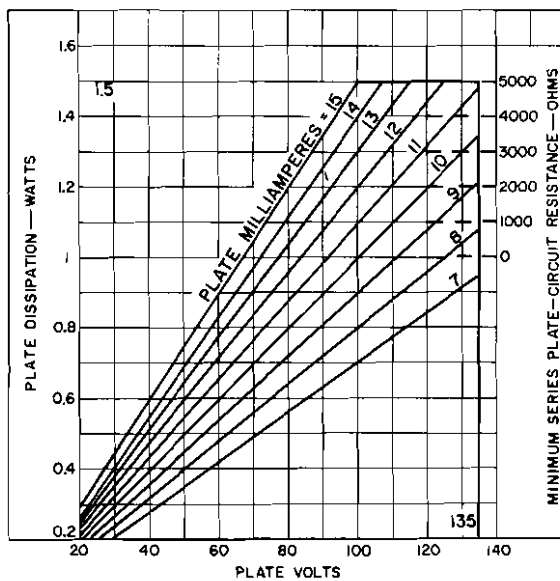

Fig. 1 - Plate-Dissipation Rating Chart for Types 2CW4, 6CW4, and 13CW4.
| For lower values of series plate-circuit resistance | See Fig.1 and Operating Considerations | |
The *Plate-Dissipation Rating Chart* shown in Fig.1 presents graphically the maximum rated plate dissipation of the 2CW4, 6CW4, and 13CW4 for various minimum
2. From Fig.1 determine the corresponding maximum plate dissipation and required minimum value of series plate-circuit resistance.
(b) From Fig.1 — the plate dissipation for a plate voltage of 130 volts and a plate current of 10.5 milliamperes is approximately 1.37 watts. The required minimum series plate-circuit resistance for this plate dissipation is 3700 ohms.